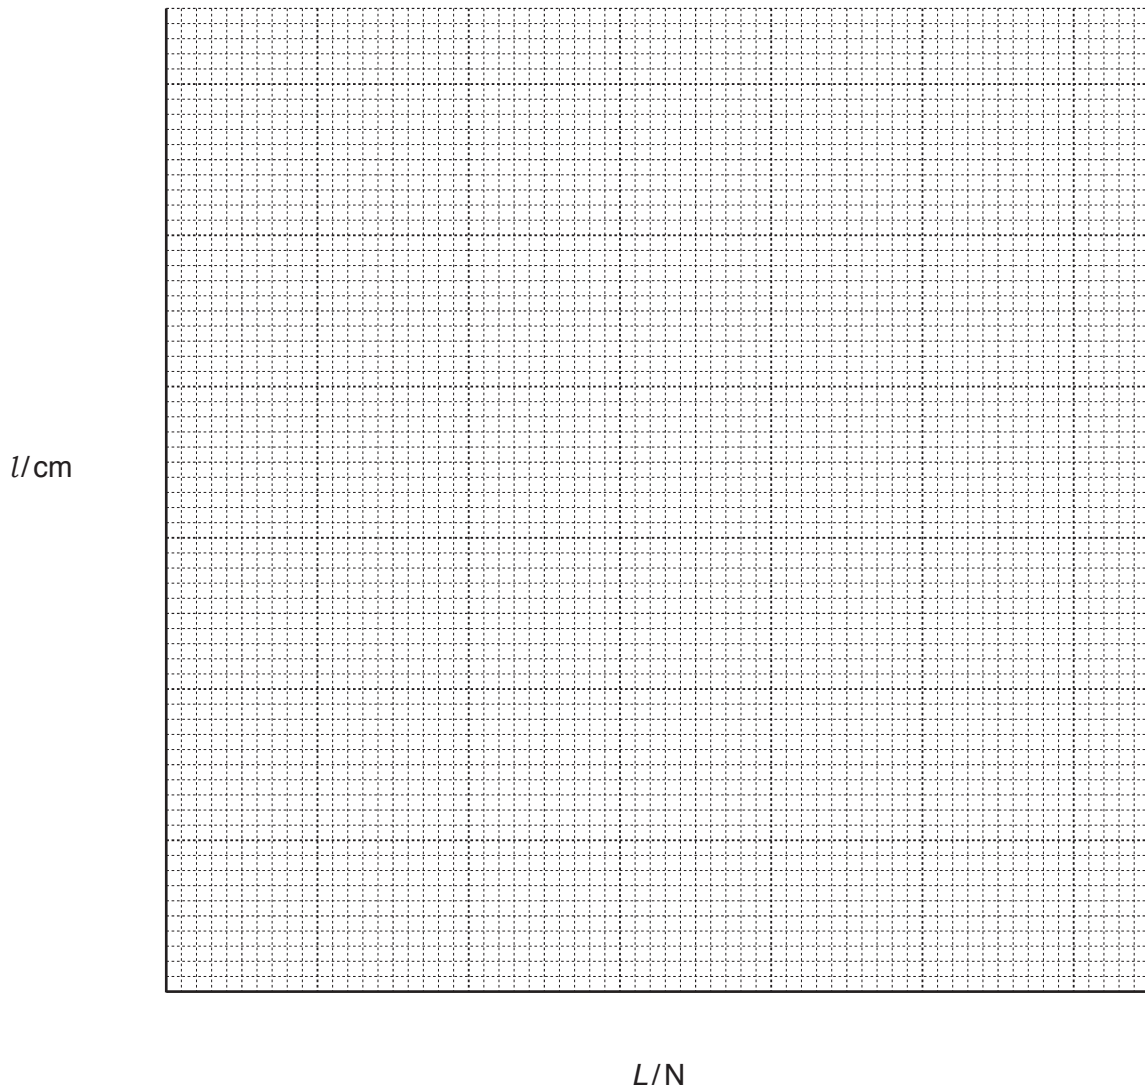

Fig. 2.2
- (c) (i) On the grid provided in Fig. 2.2 on page 7, plot a graph of spring length l (vertical axis) against load L . Start both axes from the origin (0,0). [2]
- (ii) Use your answer to (e)(i) and the graph in Fig. 2.2 to determine the weight of the stone.